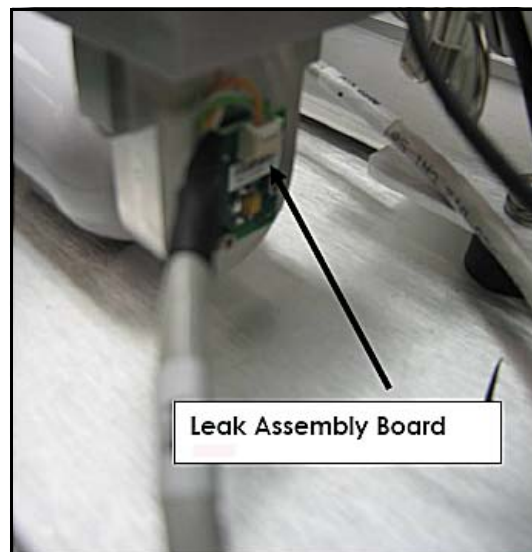
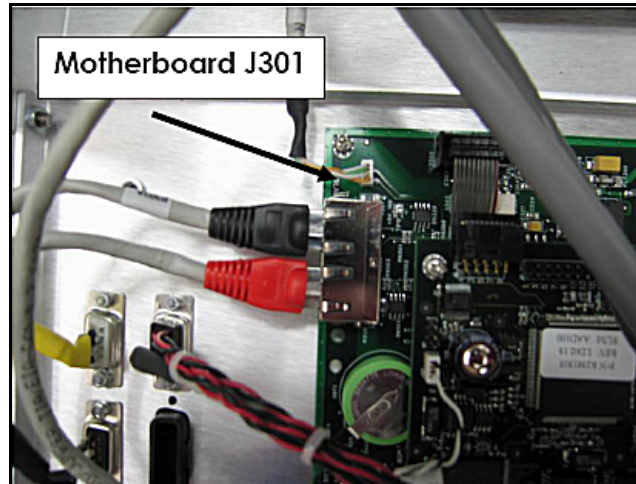

Figure B-21 Leak Assembly Board Connection
Figure B-22 Motherboard Connection
9. Connect the calibrated leak temperature cable end labeled P1A to the leak assembly board connector J1A. Then connect the end labeled P301 to the motherboard connector labeled J301 (Figure B-21 and Figure B-22).